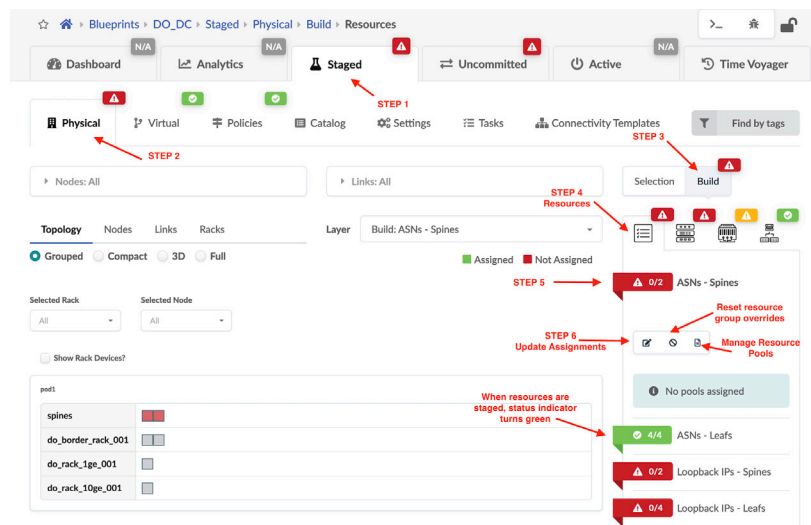

Figure 4.5 *Staging a New DC Fabric*
Step 1. Click on the Staged tab. (See Figure 4.5.)